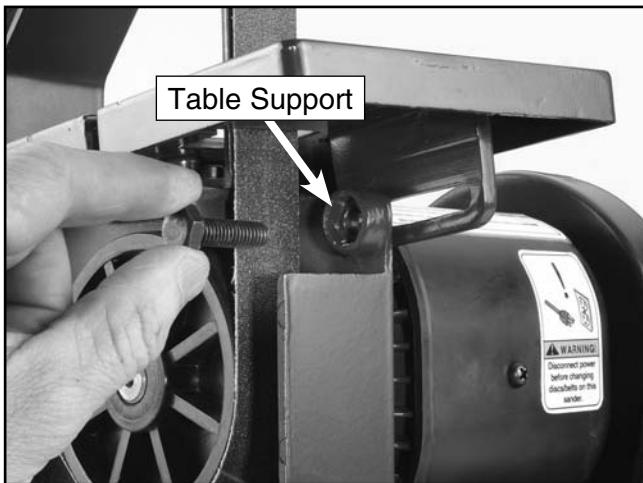

Figure 8. Lock lever square head bolt Installation.
2. Position the sanding belt table on the table support as shown in **Figure 8**.